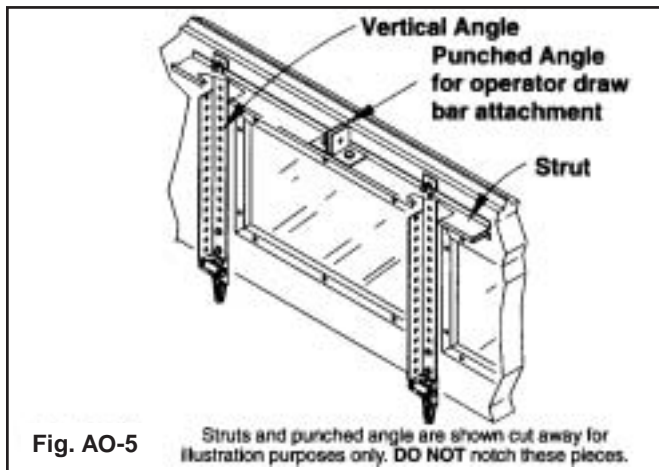

Fig. AO-5
A) Install operator draw bar to one of the vertical punched angles. It will be necessary to mount the operator off center of door, to align with the vertical angle; or B) Install operator draw bar to the horizontal punched angle. (See FIG. AO-5)
Install operator draw bar to the horizontal punched angle. (See FIG. AO-5)
**NOTE:** Doors with struts will require the top portion of angle notched out as shown to allow other leg of angle to be mounted under steel strut. (FIG. AO-5)
**Torsion Spring Doors** - Install operator draw bar to one of the vertical punched angles. It will be necessary to mount the operator off center of door, to align with the vertical angle. (See FIG. AO-5)
**Extension Springs** - Install operator draw bar to the strut with the bracket provided with the operator or cut two pieces of punched angle and mount to strut as shown with 1/4"-20 hex bolts and nuts. (FIG AO-5)
If your 2" thick door requires struts, follow the instructions for the same size 1 3/8" thick door. For 2" thick doors with no struts, proceed with attachment of vertical angle as illustrated. (FIG. AO-5 & AO-6) Refer Installing struts PDF for the type and number of struts needed for your door.